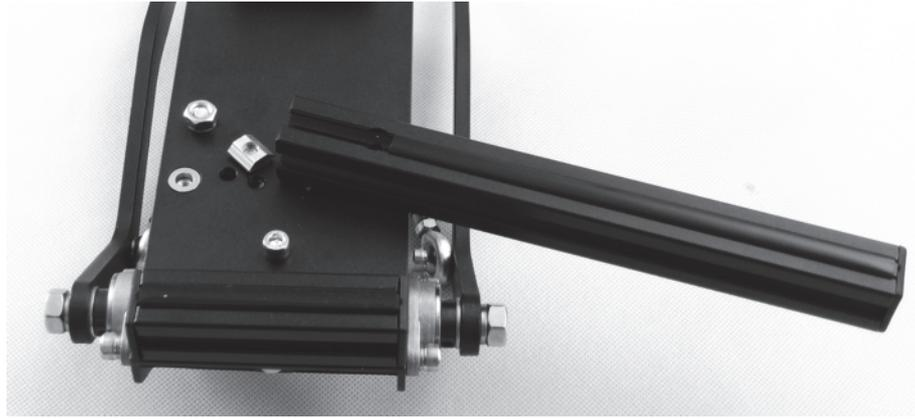

Fig. 2.8.
4.4. Insert engaged shaped nuts into internal housing of the leg (fig. 2.8).